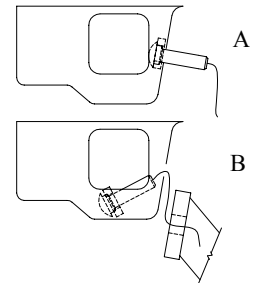
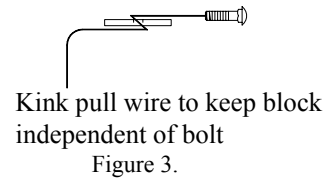

Figure 2.
Figure 3.
①	Qty. (4)	Carriage bolt 7/16-14 X 2.00 GR5	④	Qty. (4)	Hex nut 7/16-14
②	Qty. (4)	Spacer	⑤	Qty. (4)	Pull wire
③	Qty. (4)	Conical washer
- Remove (4) plastic nuts at the bottom of the trunk holding heat shield in position. Gently pull the heat shield away from the frame rail to allow access to frame rails. Note: heat shield cannot be removed.
- Using pull wires, feed spacers and carriage bolts into position (both rail). Access hole located at end of the frame rail and before the impact bar. Leave pull wire attached. See Figure 2 A. Note: It is much easier if bolt and spacer are not engaged while inserting them into frame, refer to illustration. See Figure 3.